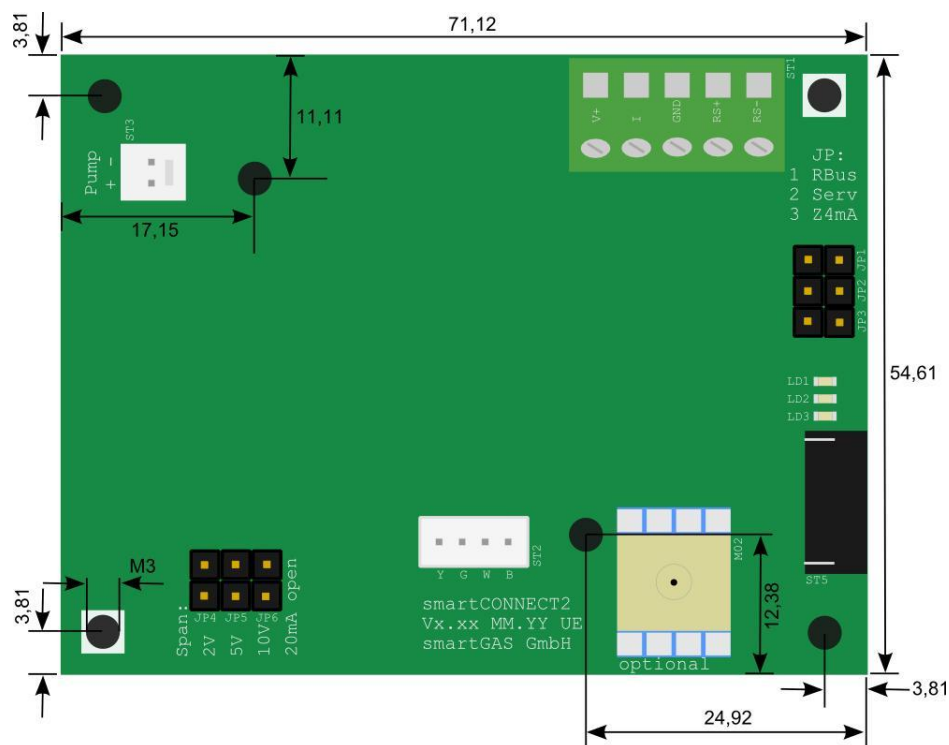

Figure 4: Connections and dimensions of the CONNECT INTERFACE board
2. Mount the CONNECT2 board in the desired position. Refer to Figure 4. The dimensions for the holes are shown here. At the same time, ensure that the screw heads are at a sufficient distance from components in order to prevent short-circuits or damage. Use spacer sleeves and plastic washers if necessary.